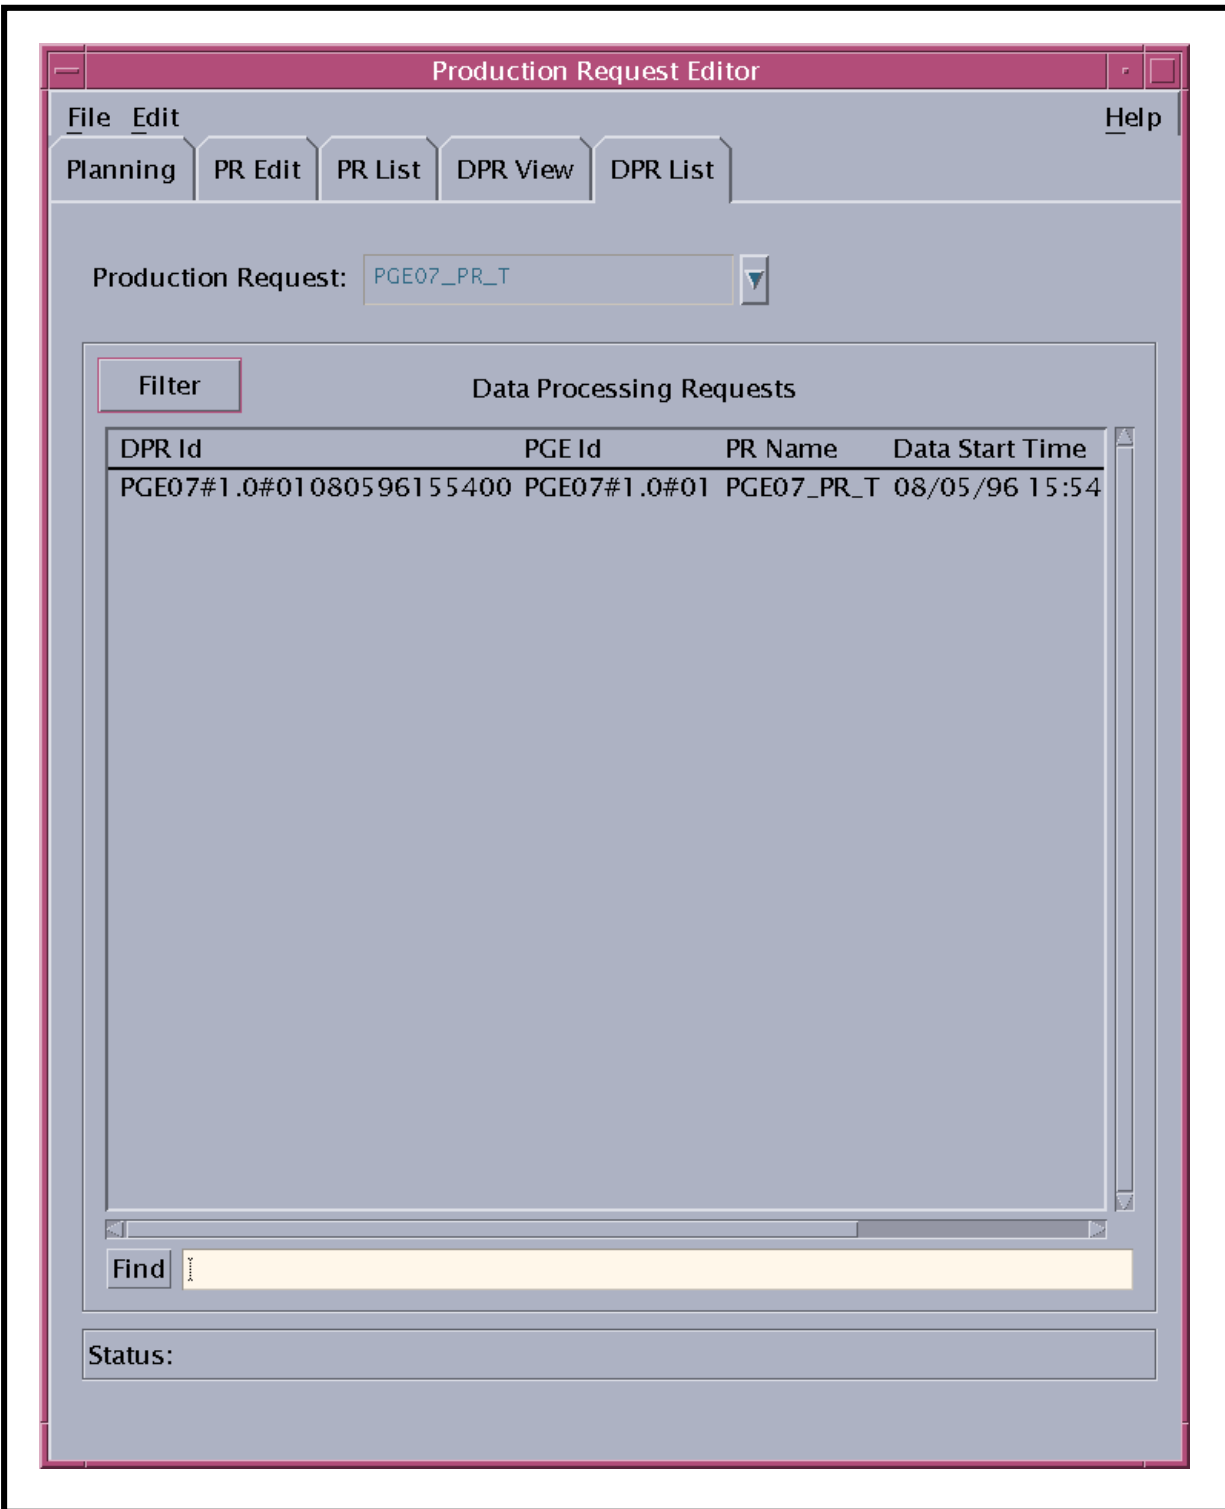

Figure 25. DPR List GUI
- The **DPR List** GUI page (Figure 25) is displayed.